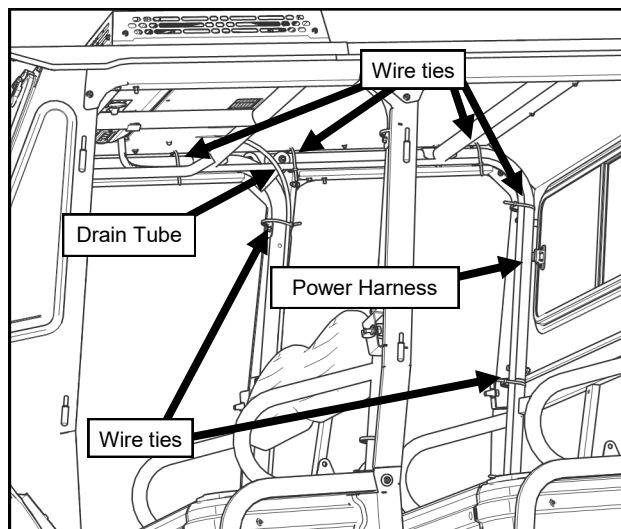

Fig. 6.1 (Power Harness & drain routing)
- 6.1** Route the power wire harness along the inside of the right side upper ROPS bar and secure with 2 wire ties to the upper bar per Figure 6.1. Secure the power harness to the rear ROPS tube and the drain tube along the center-side ROPS tube. Feed the power harness through the gap between the plastic trim and the metal seat frame at the corner of the rear seat base. Leave wire ties fairly loose.